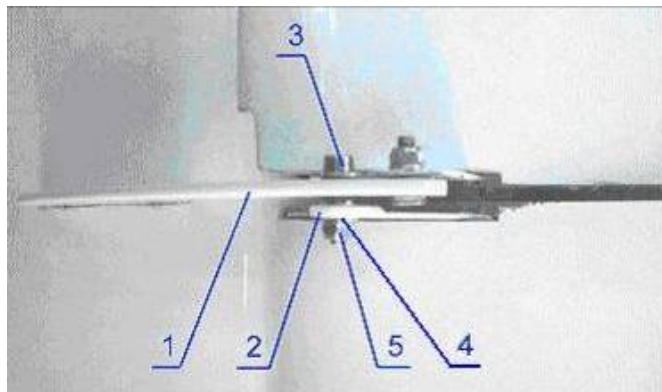

Fig. 57-51-4
3	Match the holes in the outer flap bracket (1) (KW2040030R for the right wing or KW2040030L for the left wing) with the hole in the bushing of the bearing of the wing bracket No.3 (2) (KW2010030 for the right wing or KW2020030 for the left wing) and connect them by the bolt (3) KA2020006 Fig. 57-51-4.